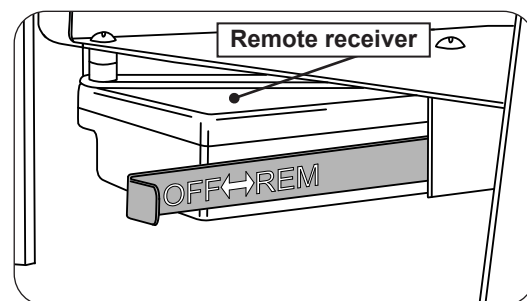

Fig. 31-2
2. Locate the OFF/REMOTE slide actuator on the left rear of the burner. Slide the actuator to the right / **REMOTE** position. See Fig. 31-2.